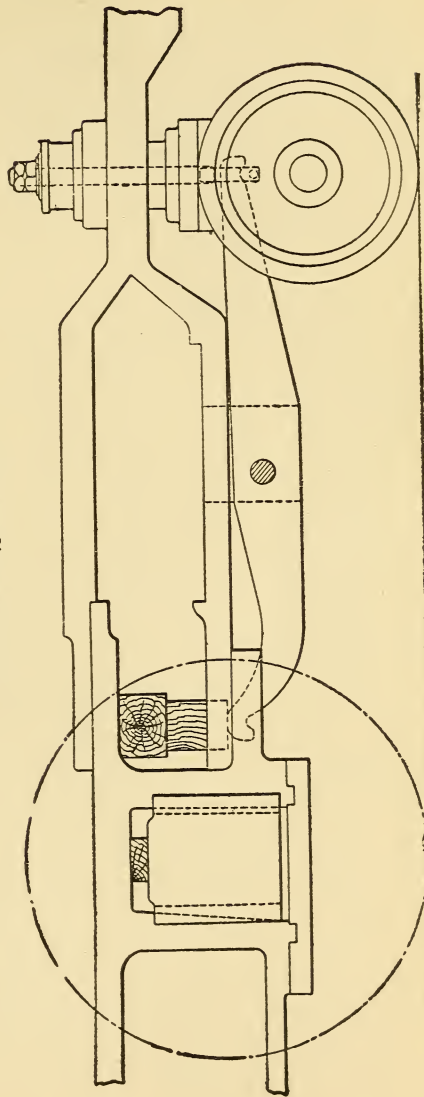
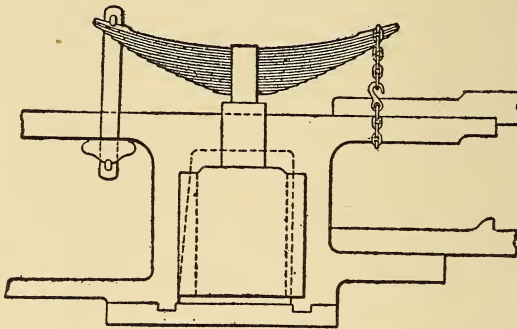

FIG. 46.—METHOD OF BLOCKING A MOGUL OR CONSOLIDATION LOCOMOTIVE WITH A
FIG. 47.—AN ALTERNATIVE METHOD OF BLOCKING A MOGUL, OR CONSOLIDATION LOCOMOTIVE WITH A BROKEN CROSS EQUALIZER.
If it is found to be necessary to block both of the forward boxes, the intermediate equalizer to the truck must also be blocked, as in Fig. 46.
A. The front end of the engine should be jacked up so as to relieve the equalizer of all load. The back end of this equalizer should then be blocked down, as in Fig. 46, so that the front end cannot strike the axle. After which the jacks can be removed and the engine run cautiously with the full train. The reason for slow and cautious running in this case is that the front truck being entirely relieved of all load would be apt to leave the rails if the speed were high.
A. Jack up the front end of the engine and put blocking over the forward driving axle boxes to carry the frame. Also remove the springs and the broken part and block the intermediate equalizer down, as shown in Fig. 46. Or, as an alternative, the blocking over the axle box may be omitted and the forward end of the driving spring chained down to the frame, as shown in Fig. 47, provided there is room for the passage of the chain back of the driving wheel. The blocking of the equalizer may be left as described.
A. The front end of the engine should be raised and blocking be placed either over the forward axle box, as shown in Fig. 46, for a broken cross equalizer; or above the cross equalizer and beneath the boiler, thus holding the former down in position. The broken part is, of course, to be removed.